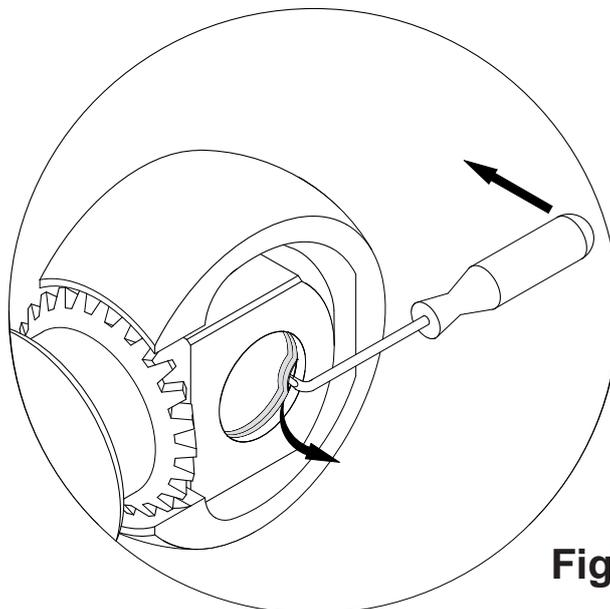

Fig. 4.1
4.03) Using the dedicated tool, remove the seals and the o-rings **pos.75** from their seats (fig.4.1).